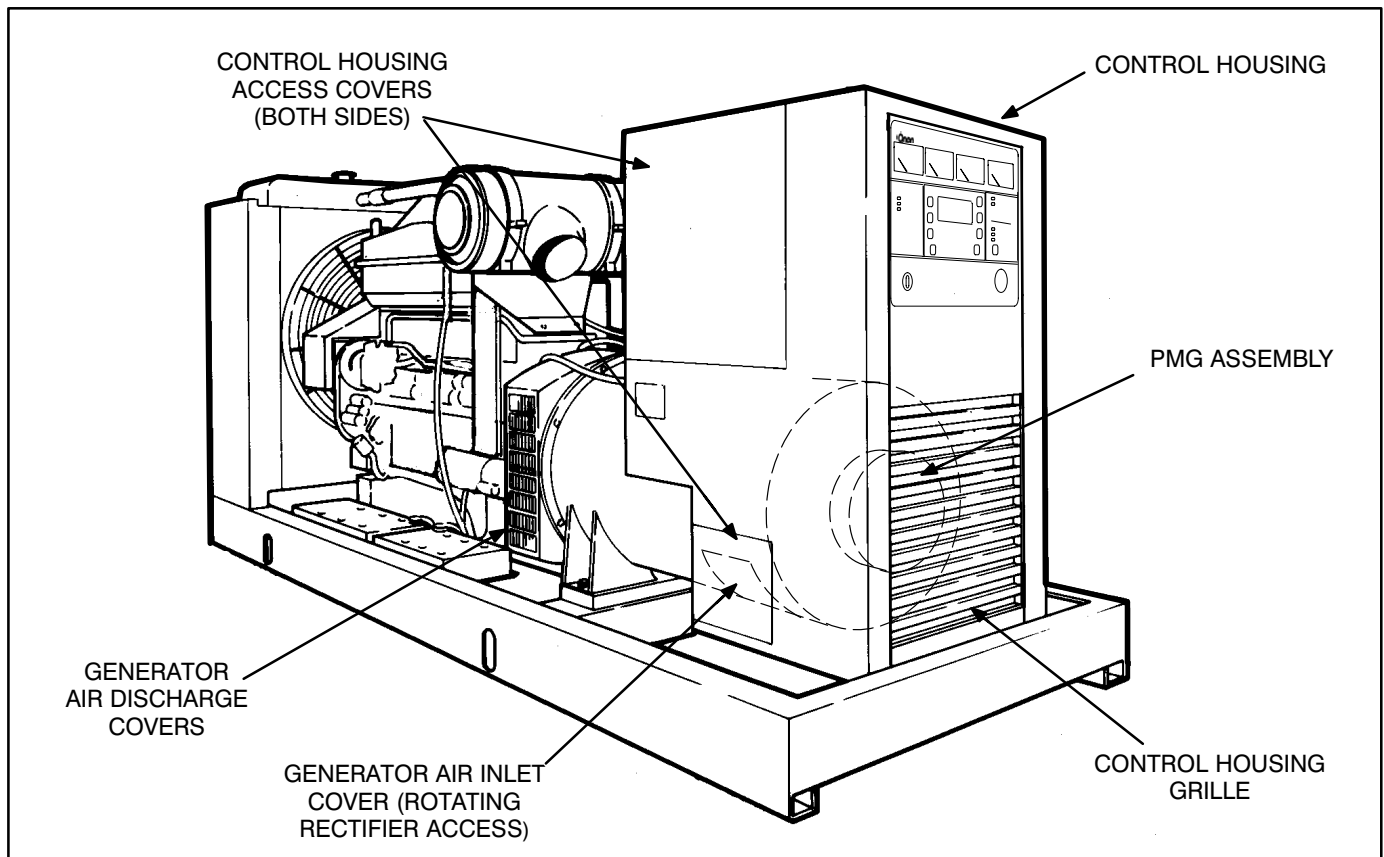

FIGURE 7-7. GENERATOR AND CONTROL HOUSING ASSEMBLY
2. Remove the control housing grille and access covers (see Figure 7-7).
2. Remove the air inlet and discharge panels and access covers from control housing and generator (see Figure 7-7).